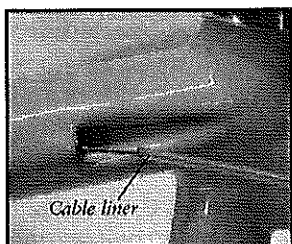

Fig. 25
5. Slide the selected cable liner up the cable (Fig. 25).